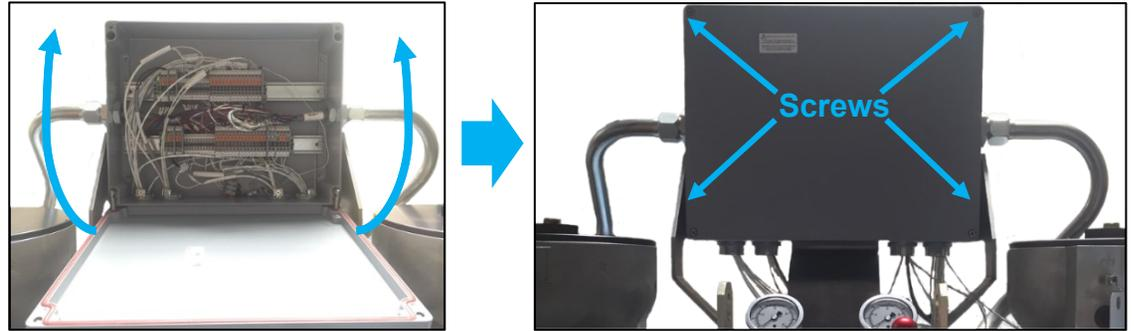

Figure 2-81. VS-DX J-Box Closing
71. Close the front cover of the junction box (use a slotted screwdriver: **22.0 – 27.0 LBIN (2.5 – 3.0 Nm)**; **5.5 X 0.8 mm** tip size) (Figure 2-81).